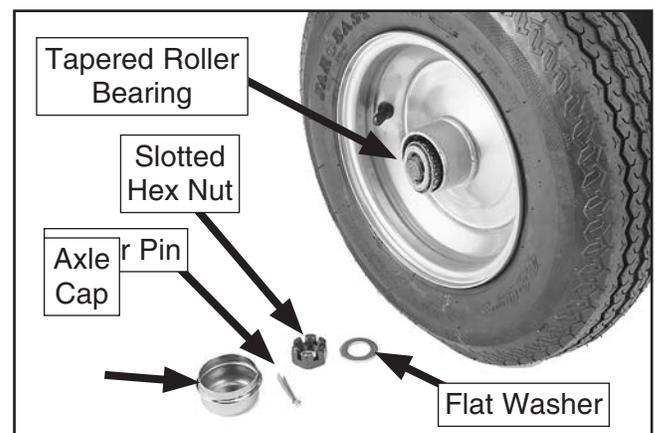

Figure 47. Components removed from wheel to access and grease outer wheel bearing.
1. Remove wheel axle cap, cotter pin, flat washer, and slotted hex nut shown in **Figure 47**.
2. Remove and clean inner and outer tapered roller bearings (see **Figure 47**), re-pack these with multi-purpose grease, and re-install.